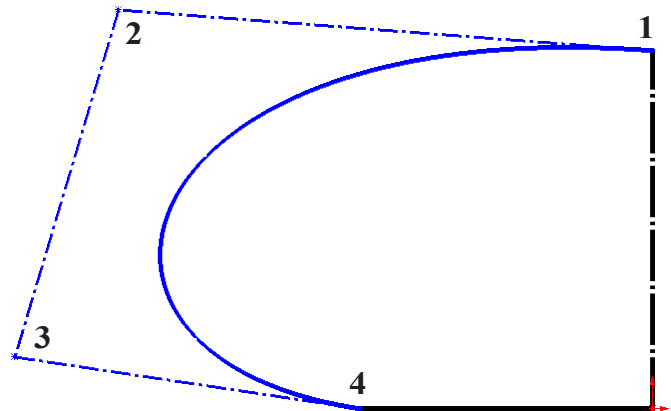

Fig. 3
Step 6. Sketch a **4 control vertex point Spline** between end-points of line, **Fig. 3**. Press Escape to end spline.